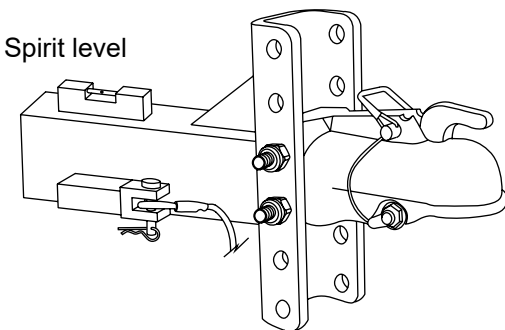

Fig. 15
2. Place a spirit level on the tongue behind the coupler channel (Fig. 15).